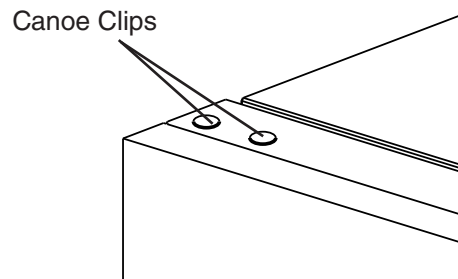

Fig. 22
- 10) Insert the 2 canoe clips included in the accessory bag into the holes on top of the door. See Fig. 22.